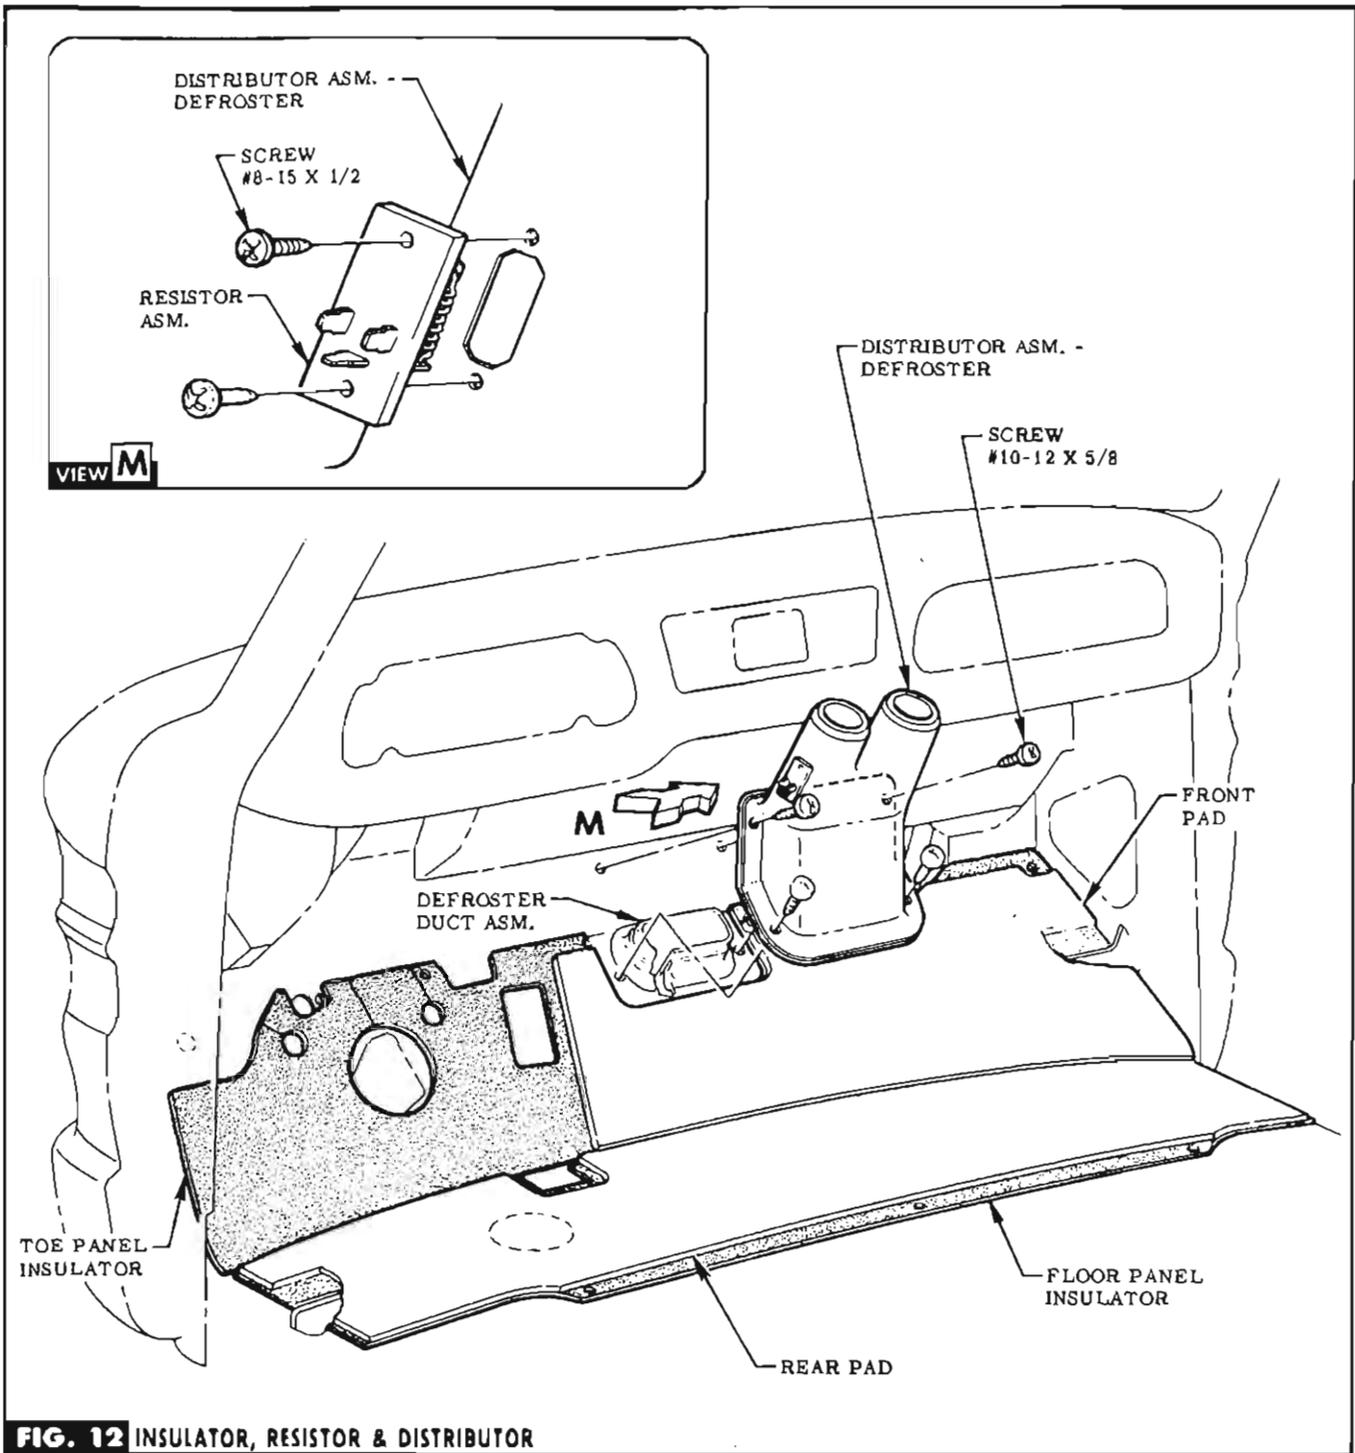

FIG. 12 INSULATOR, RESISTOR & DISTRIBUTOR
STEP 49 CEMENT TOE PANEL & FLOOR PANEL INSULATORS TO UNDERBODY. SEE FIG. 12.
STEP 50 INSTALL FRONT & REAR PAD. SEE FIG. 12.
STEP 52 INSTALL DISTRIBUTOR WITH SCREWS PROVIDED (IN BAG A). SEE FIG. 12.